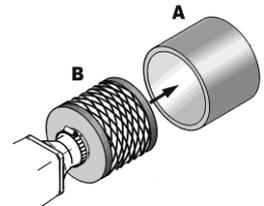

Fig. 7.2.12
Engine is provided with an intake air filter. This filter has two components, part (A) and (B). To perform filter element cleaning (A), use water with soap as explained in chapter 7.1. Filter assembly, parts (A) and (B) must be changed both after two years of service. See Fig. 7.2.12.